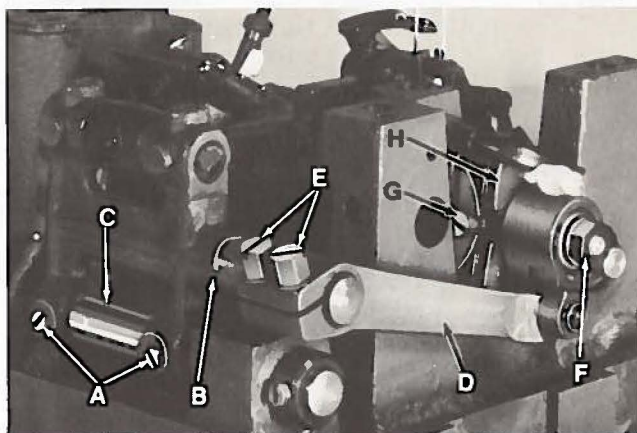

FIGURE 8
Should it be necessary to move the feed dog to the left or right, loosen screws (A, Fig. 8) which hold the feed rocker (B) onto the feed rocker shaft (C), and move the feed rocker to desired position and retighten screws. Make sure the feed rocker arm (D) does not bind after making this adjustment.
Should it be necessary to move the feed dog forward or backward, loosen screws (E, Fig. 8) which clamp the feed rocker arm to the feed rocker and move the feed rocker forward or backward as needed and retighten screws.
Set the stitch to required length. This is accomplished by loosening the locknut (F, Fig. 8) 1/2 turn (it has a left hand thread) on the end of the stitch regulating stud and turning the stitch adjusting screw (G) located under the left end of the cloth plate, in the head of the mainshaft (H). Turning the screw clockwise shortens the stitch and turning it in a counterclockwise direction lengthens the stitch. Retighten the locknut (F) securely. Torque to 55 in. lbs. (63 cm/kg).